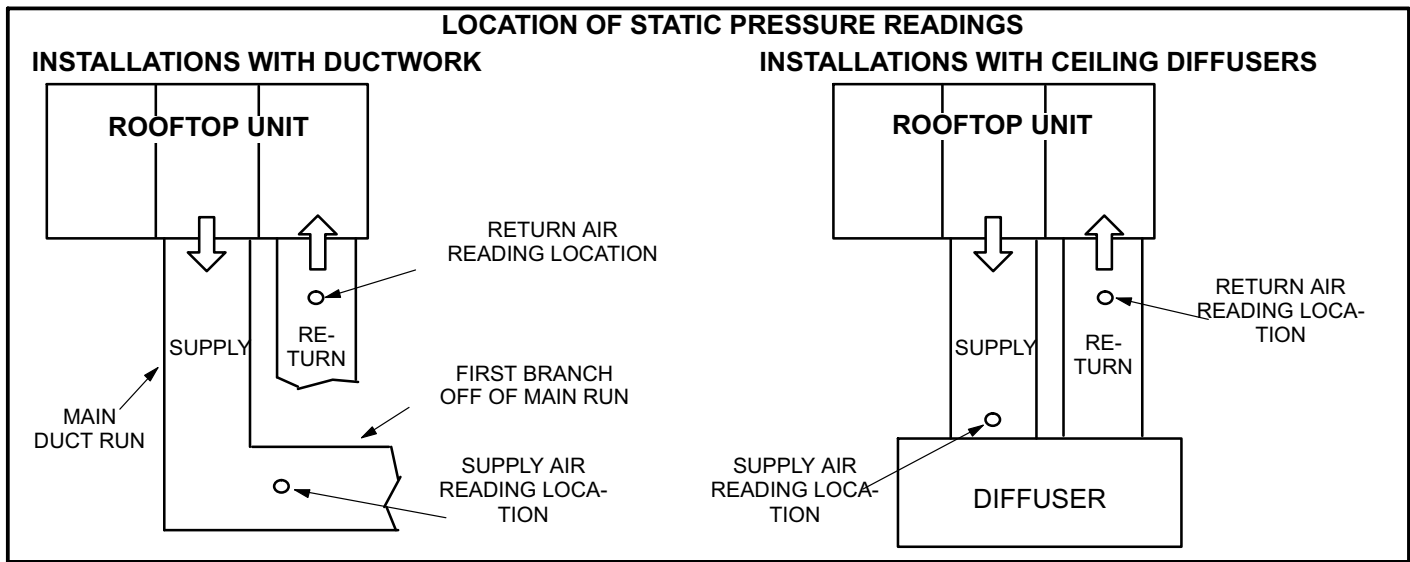

FIGURE 11
2. With all access panels in place, measure static pressure external to unit (from supply to return). Blower performance data is based on static pressure readings taken in locations shown in figure 11.
- 2- With all access panels in place, measure static pressure external to unit (from supply to return). Blower performance data is based on static pressure readings taken in locations shown in figure 11.